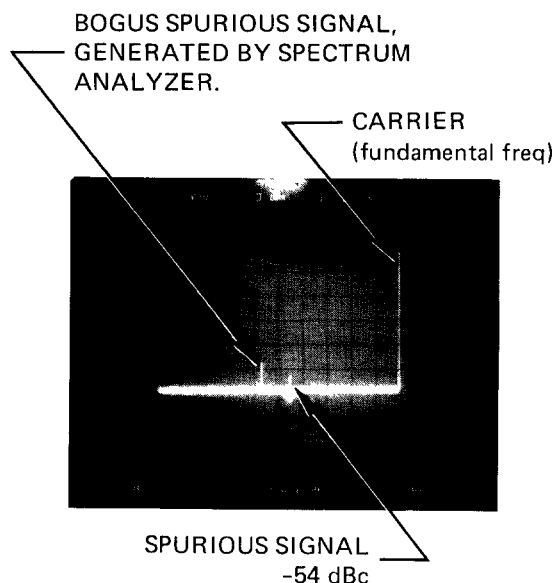

Figure 4-16. Example of a Spurious Signal
Spurious signals may be generally characterized as follows: they will (1) be weak in power, (2) "pop up" abruptly and track oppositely to the fundamental and harmonic signals, and (3) disappear abruptly. An example of a spurious response at 984 MHz is shown in Figure 4-16.